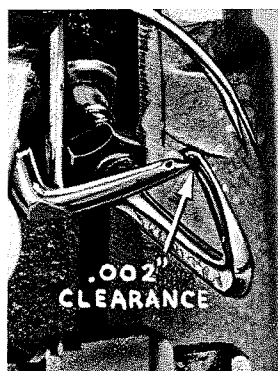
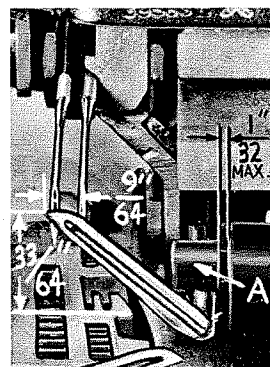

Fig. 9
Fig. 10
By adjusting looper holder in or out of upper looper shaft and by turning the looper around its shank, set upper looper point to cross lower looper to the left of the lower looper eye with 0.002 to 0.004 clearance (Fig. 9).
Next, turn the handwheel until upper looper is at the left end of its travel. Check dimensions of upper looper point with respect to the right needle and throat plate (Fig. 10). If resetting is necessary, do it by moving the upper looper holder (A, Fig. 10). Figure 10 represents the dimensional setting.
Dimension $33/64$ inch is increased by turning upper looper holder counter-clockwise looking from left end of machine. Dimension $9/64$ inch is increased by pulling upper looper holder left, out of the upper looper shaft. A maximum dimension of $1/32$ inch (Fig. 10) should be maintained between the upper looper holder and the upper looper shaft. After these changes are made, it may be necessary to turn the upper looper around its shank slightly to maintain the condition shown in Fig. 9.
Check setting to avoid interference between upper looper and needle on needle downstroke. If needle rubs the back of upper looper, pull looper out of its holder slightly and rotate looper a short distance counter-clockwise, looking from left end of machine. Reset to maintain dimensions of Fig. 9, 10, 11.
If it becomes necessary to move looper thread pull-off (R) be sure to take up all end play in needle drive shaft before tightening. If upper looper is located so that it is higher over throat plate than recommended in (Fig. 10), the purl will tend to form near top edge. If upper looper is too low, the purl will form nearer bottom edge.